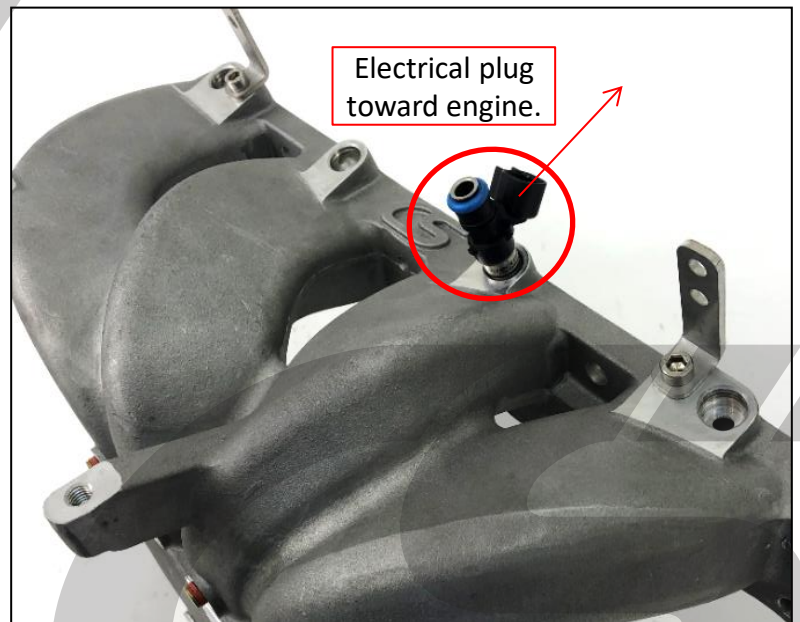

Figure 11b
- b) **Insert your four injectors into the injector ports.** The electrical plugs must face toward the engine for proper clearance. Shown with one injector in Figure 11b.